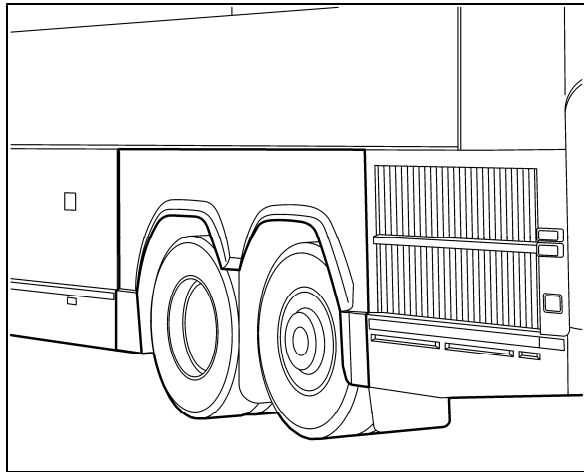

FIGURE 12: L.H. SIDE REAR FENDER
5. Remove L.H. side rear fender (Fig.12).